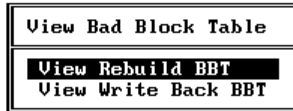

Figure 3-11. View Bad Block Table Menu
- To view either (or both) of these tables, select **Bad Block Table** from the Tools menu. The View Bad Block Table menu appears (Figure 3-11).